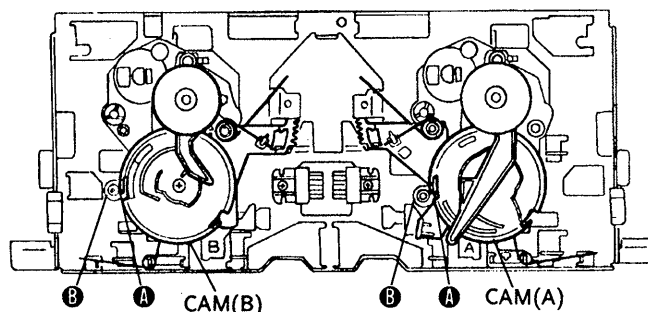

Fig. 1. STOP POSITION
When the CAM(A) and CAM(B) removed or replaced. Make sure to install these cam's (marked **A** position) with marked **B** position of chassis as show in Fig. 1.